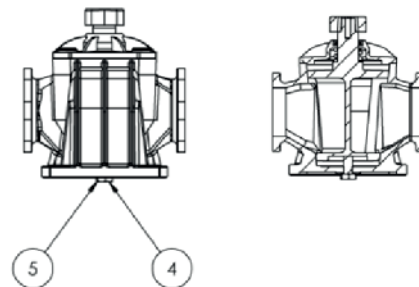

Fig. G.13 - Four-ways valve screw adjustment
- Use a 6mm Allen wrench to hold down the adjustment screw **pos.4 Fig. G.13**.
- With a 19 mm wrench, loosen the locking nut **pos.5 Fig. G.13**.
- Now operate on the adjustment screw **pos.4 Fig. G.13** by making minimum movements, bearing in mind that by screwing it in, the strain on the diverter is reduced while by unscrewing it, the strain increases. Check the hardness of the movement by moving the lever (manual diverter **Fig. G.10**) or observing the movement (pneumatic diverter **Fig. G.11**).
- When the adjustment is complete, maintain the position of the adjustment screw **pos.4 Fig. G.13** with an Allen wrench and tighten the locking nut.